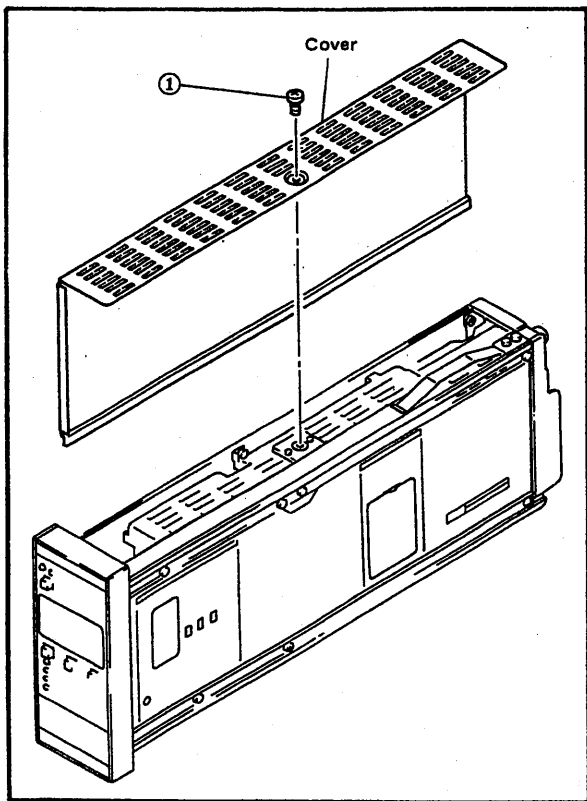

Figure 7-2-1. Removing Cover.
Initially, remove the screw ① to remove the cover as shown in Figure 7-2-1.